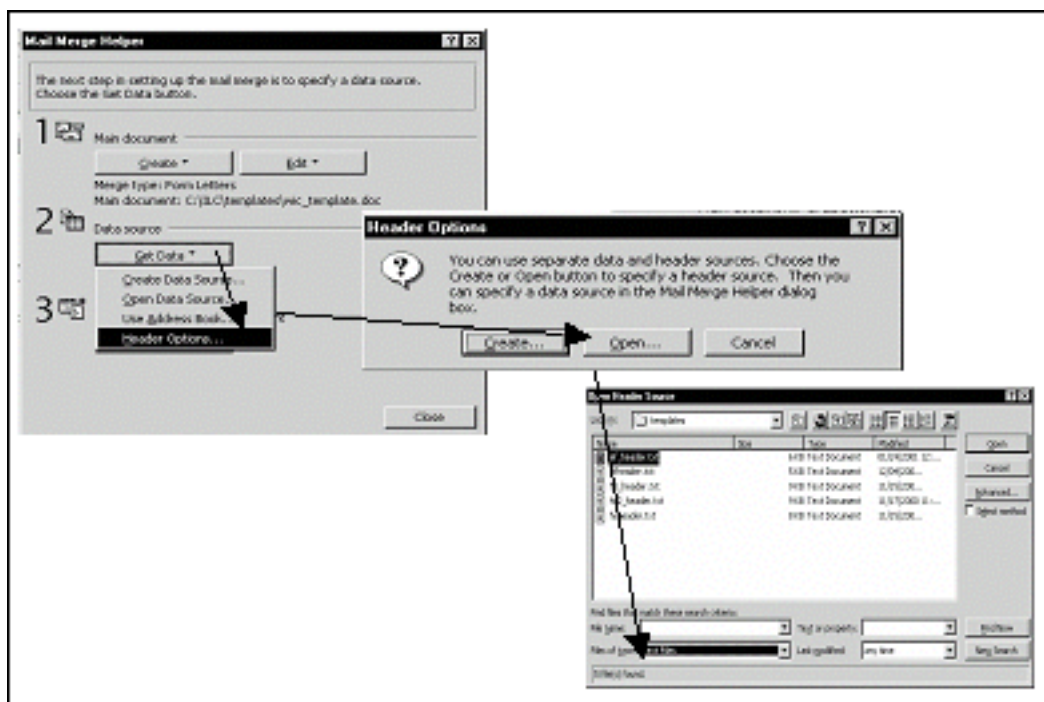

Figure 6-57: Manually Running The Mail Merge Process Steps 5-7
5. Click the Get Data option. A dropdown menu will appear. Click the Header Options option. A dialog box will open (Figure 6-57).
6. Click the Open option. The Open Header Source Window will open. Select the All Files option from the “Files of type:” field (Figure 6-57).